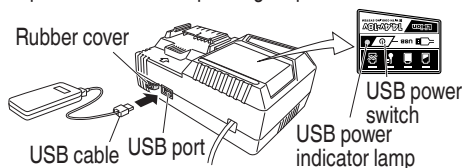

Fig. 12
- (2) Turn the USB power switch ON (Fig. 12)
- (3) Connect the USB cable. (Fig. 12)
- Turn the USB power switch OFF and unplug the power cord from the electrical outlet. (Fig. 12)